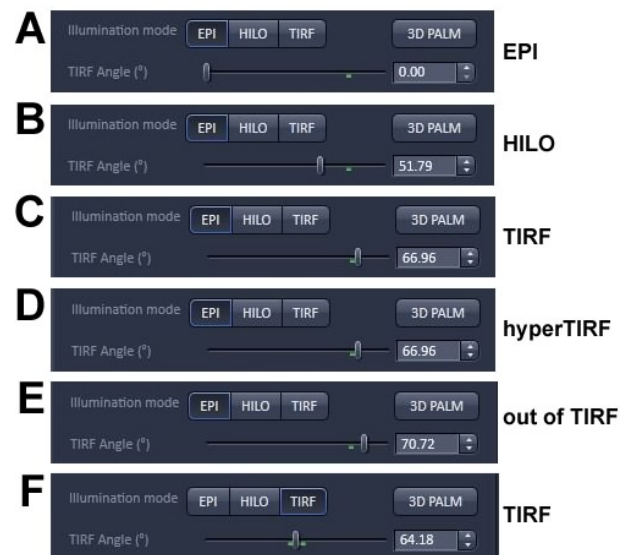

Fig. 105 "TIRF angle (°)" adjustment slider with "EPI" (A-E) and "TIRF" (F) mode activated.
- 4.) Select **EPI** mode (**TIRF angle** slider to the very left) in the **Channels** menu (Fig. 105/A) and focus on the settled beads using the 488 nm laser line (Fig. 106/A). Besides the settled in-focus beads you also should see blurry floating out-of-focus beads.
- 5.) Start moving the **TIRF angle** slider to the right. The image appearance will change as follows (Fig. 105/B-E):
- 7.) Go to **TIRF** mode (Fig. 105/F) and enter the TIRF position determined in step 6 in the input box. Press **Enter** to move slider to the position.